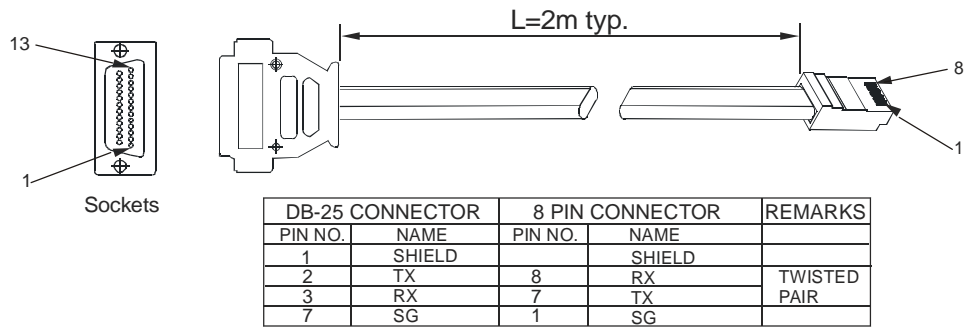

Fig.7-2: RS232 cable with DB25 connector (P/N: GEN/232-25)
- Connect rear panel IN connector to the controller RS232 or RS485 port using a suitable shielded cable. Refer to Figures 7-2, 7-3 and 7-4 for available RS232 and RS485 cables.